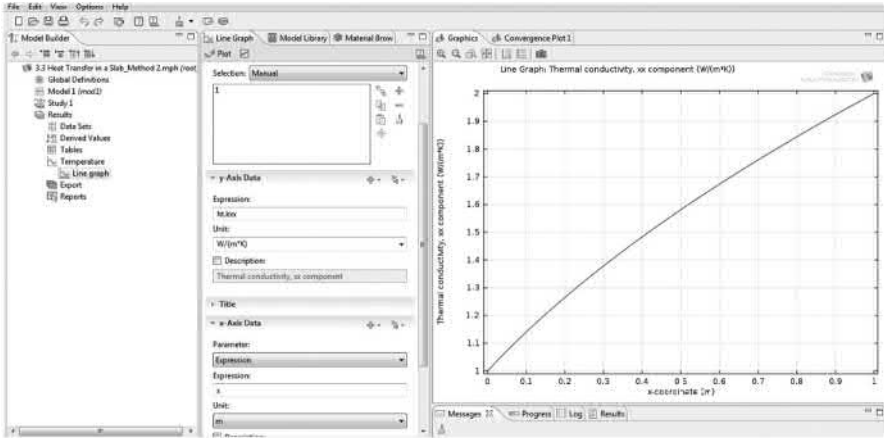

FIGURE 3.7 Thermal conductivity in Equation (3.5).
- Click on *Plot* icon in the *Line Graph*. A graph will appear giving the profile of *Thermal Conductivity* versus  $x$  as shown in Figure 3.7.